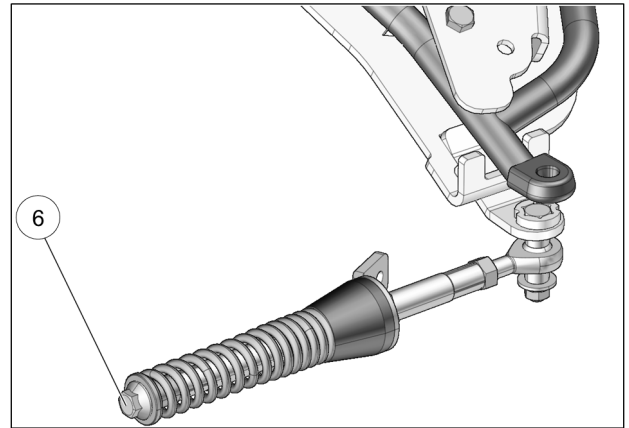

Fig. 24
14. Verify that spring assembly bolt (**6**) is tightened to the recommended torque specification: 75 N•m [55 lb•ft]. Refer to Fig. 24